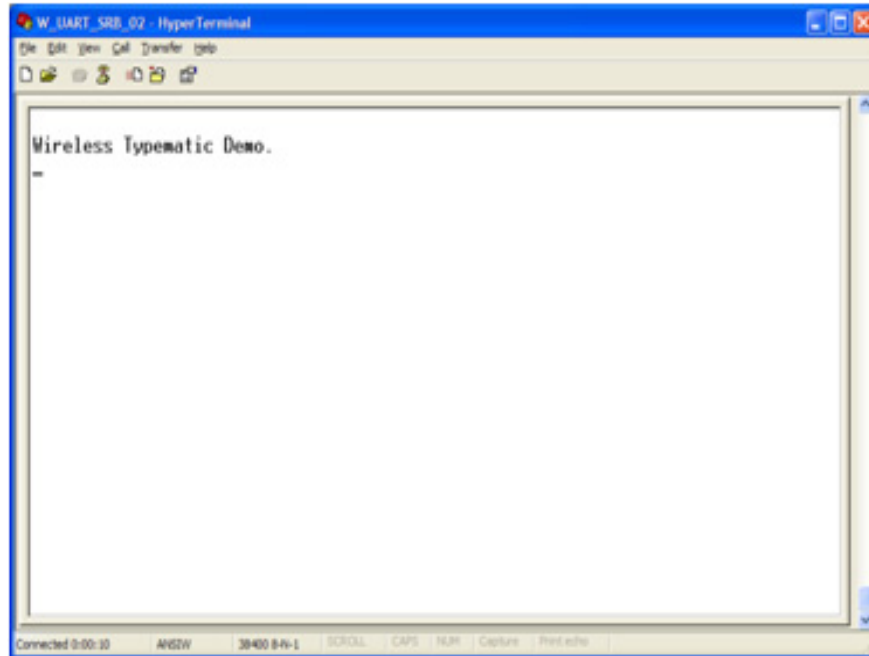

Figure 7-1. Wireless UART Application
4. Connect the board that is running the WirelessUART application to the serial port of the PC and press that board's reset button. A message appears on the PC display as shown in Figure 7-1.